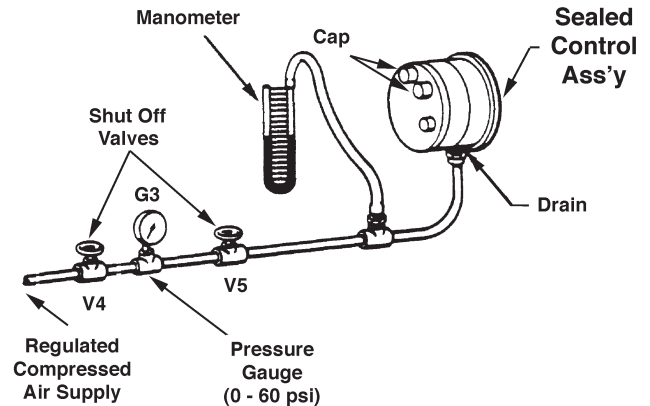

Figure 7 - Test Set Up
- (20) Remove fuel leakage test apparatus and reassemble the base into the jacket and cover assembly. Place new preformed packing (10) on the lip of the jacket (9). It is permissible to lube the packing with Dow Corning DC-4 at installation to help retain the packing while installing the base.
- (21) In the jacket and cover assembly (9), locate the four support tubes (4) and remove and discard the seal washers (5) and install new P/N 27C30 seal washers.
- (22) Place the base assembly (78) in the jacket and cover assembly (9) noting the location of the hole in the upper side of the jacket and in the edge of the base assembly. Make sure to align the four support tubes with the applicable holes in the base.
- (23) With proper location made between the jacket and base assembly, install the screw (6), washer (7), and new Gasket, P/N 83A83 into side of the base loosely to align the base.
- (24) At the four support tube locations, install the flat washers (2) and new Self Locking Nut (1) P/N MS20365-428A to secure the base to the jacket and cover assembly. Tighten one screw (6) and four nuts (1) using standard torque.
- (25) Air Leakage Test:
- (a) Prior to re-connecting aircraft/rotorcraft fuel lines and electrical connector, an air leakage test must be performed using the test set up shown in Figure 7.
- (b) The test set up in Figure 7 consists of a regulated oil free compressed air source capable of supplying 30 psi, an air pressure gauge (0-60 psi), two shut off valves, a mercury manometer (0-30 inch of mercury minimum), and suitable plumbing components configured as shown. Connection of the test lines and components may be done with the Sealed Control Assembly installed.
- (e) Observe the manometer and record the time it takes for the pressure to drop from eighteen (18) inches of mercury to fourteen (14) inches of mercury. The time must not be less than thirty (30) seconds. If less than this time, the cause of air leakage must be found and corrected and the air leakage test repeated.